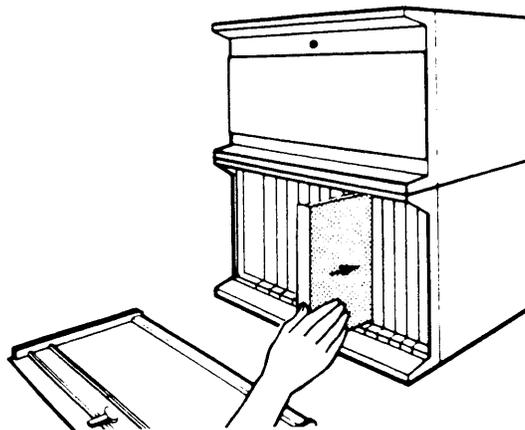

Figure 3.
5. Align the module in the slot (Figure 3), making sure the edges of the circuit board are in the top and bottom grooves of the slot.